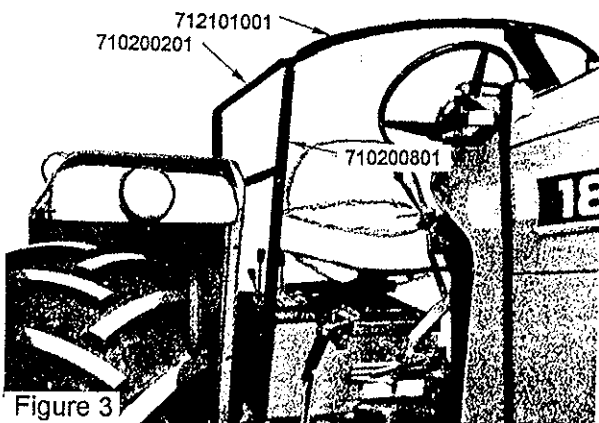

Figure 3
3. Remove grab handles on tractor. Replace grab handles with saddle inserted between handle and tractor on rear set of bolts. Place #710200501 saddle braces between handle and tractor on front set of bolts. Use 3/8" x 1 1/2" hex head cap screws. **NOTE:** mounting bracket goes toward back of tractor. Bolt top of braces to the saddle using 5/16" x 3/4" bolts and nuts. See Figure 3.
6. Slide #710200201 side arm in wide hem on right side of cover. Bolt top of side arm and top of #710200801 side arm brace to yoke using 3/8" x 1 1/2" hex head bolt and nut. **NOTE:** Head of bolt goes down and side arm goes on top of yoke and top of brace under yoke. See Figure 3.
7. Remove 5/16" bolt in platform ahead of console and bolt bottom of side arm to platform. Bolt bottom of brace to side arm using 5/16" x 3/4" hex head bolt and nut. See Figure 3.